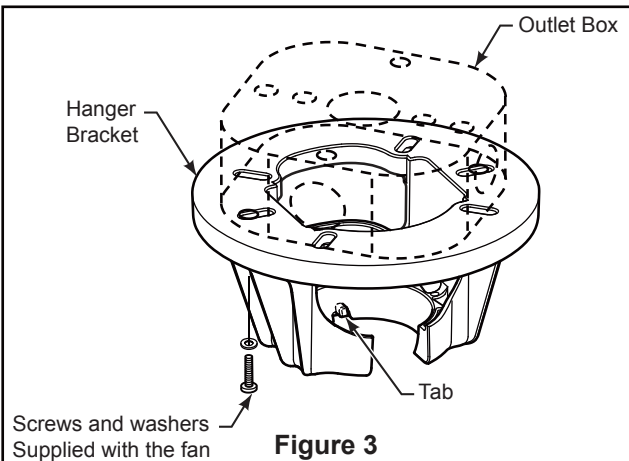
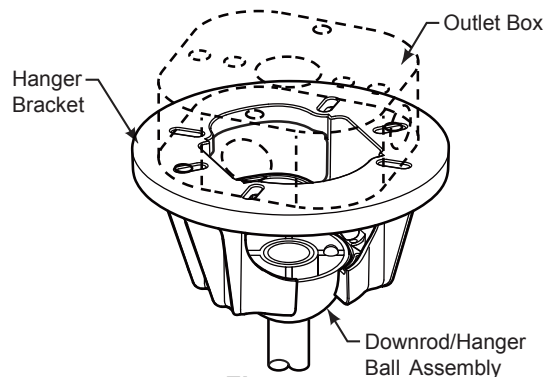

Figure 3
Figure 4
3. Loosen the two set screws and locking nuts in the downrod support of the motor assembly. Route the wires through the downrod. (Figure 3)
4. Slide downrod into the downrod support on top of the motor. Install the clevis pin by aligning the holes in the downrod support with holes in the downrod. Secure clevis pin with hairpin clip. Install and tighten the two set screws with nuts in the downrod support. Securely tighten the set screws with screwdriver then fully tighten the nuts by hex wrench. (Figure 4)
1. Securely attach the hanger bracket to the outlet box using the #8-32 outlet box screws and washers supplied with the fan. (Figure 3)
**NOTE:** Outlet box screws pass through slotted holes of the hanger bracket. (Figure 3)
3. Carefully lift the fan and seat the downrod/hanger ball assembly on the hanger bracket that was just attached to the outlet box. (Figure 4) Be sure the groove in the ball is lined up with tab on the hanger bracket. (Figure 3)
2. Slide the receiver into the hanger bracket before wiring as shown in figure 3.
3. Connect wires using connectors as shown in Figure 4. Connect the 2 pin connectors from the motor assembly to the 2 pin connectors from receiver, connect the 3 pin connectors from the motor assembly to the 3 pin connectors from receiver.
- 4. Assemble the light kit wire cover assembly to the switch housing assembly using the two key slots in the light kit wire cover assembly. Replace the previously removed screw and securely tighten all three screws. (Figure 4)
- 4. If you need to replace the batteries. Remove the battery cover from remote control by screwdriver and retain the screw for later. (Figure 4)